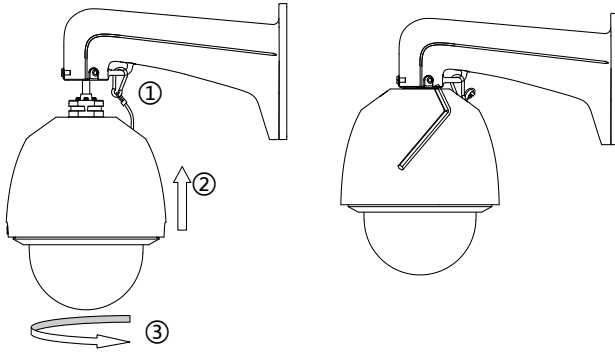

Figure 1-16 Install the Speed Dome
1. Hang the safety rope to the speed dome and then hook to the mount as shown in Figure 1-16 (left).
5. Fasten the two lock screws with the Allen wrench, as shown in Figure 1-16 (right).